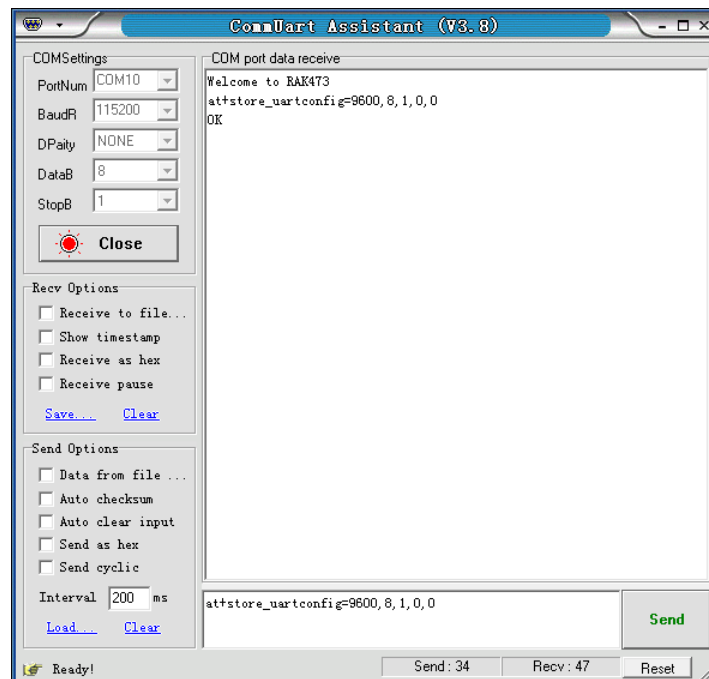

Figure 1-2 The baud rate of the module set with the serial port command
3. Send the "configure storage UART parameters" command (Figure 1-2), to configure the UART parameters.